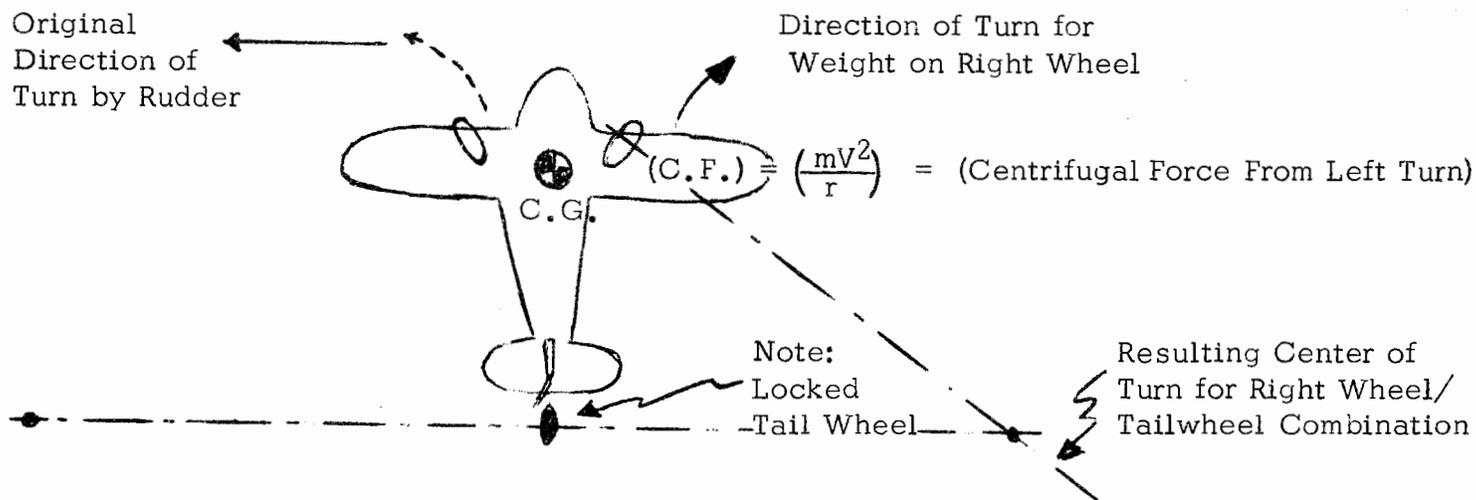

FIGURE 1. DETERMINING CENTER OF TURN
- (1) If the aircraft weight were only on the right wheel and the tail wheel, Figure 1 shows that toe-out would cause the airplane to turn to the right.
- (2) If the left rudder is pushed (or if something tries to turn the aircraft to the left) centrifugal force developed from the left turn will force more of the weight on the RIGHT wheel. This weight shift will cause the right wheel to have more traction and the left will have correspondingly less, and the aircraft will turn to the right as influenced by the turn radius as shown in Figure 1.
- (3) Once the aircraft starts to phase into a right turn, the centrifugal force will tend to shift the weight back to the left wheel, cancelling out the right turn effect.
- (4) Note that this action is stabilizing; i.e., it tends to oppose any force that would keep it from going in a straight line. (This is something like dihedral in wings, stabilizing the flight path.)